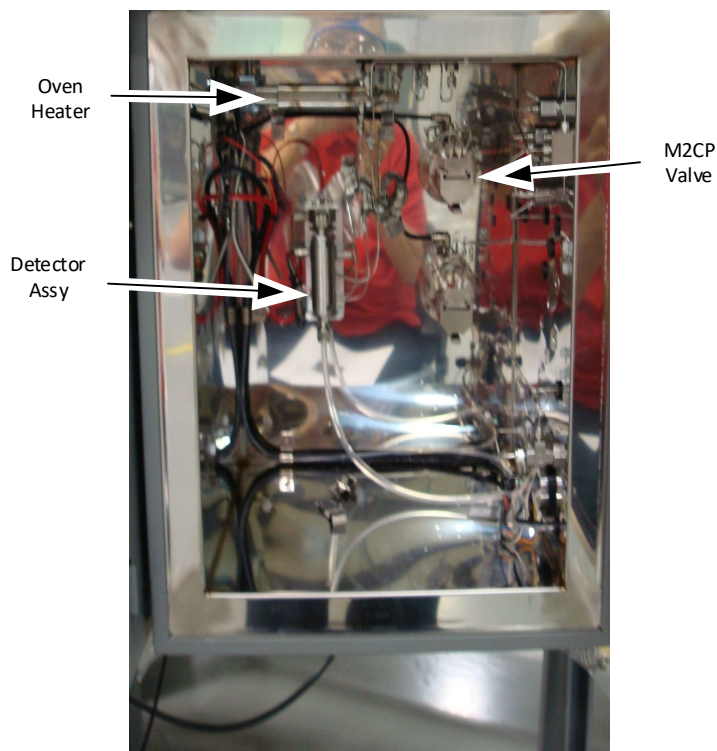

Fig. 8.8. Main Interior Components
**8.3.4 Class B main interior (see Figure 8.8)**